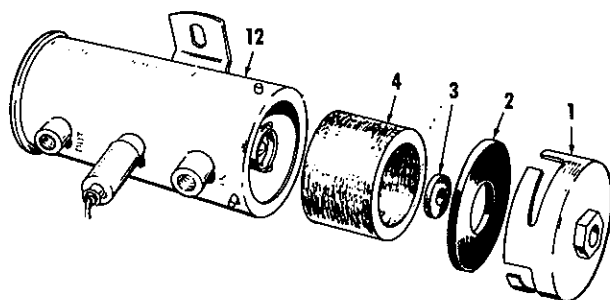

FIGURE 7-6. REMOVAL OF BOTTOM COVER, GASKET, MAGNET AND FILTER
1. With 5/8-inch wrench, release bottom cover (1) from bayonet fittings. Twist cover by hand to remove from pump body.
2. Remove filter (4), magnet (3) and cover gasket (2), Figure 7-6. Wash filter in cleaning solvent and blow out dirt and cleaning solvent with air pressure. Check cover gasket and replace if deteriorated. Clean cover.
3. Place cover gasket (2) and magnet (3) in bottom cover (1) and assemble filter (4) and cover assembly. Twist cover by hand to hold in position on pump housing. With 5/8-inch wrench, securely tighten bottom cover, Figure 7-6.